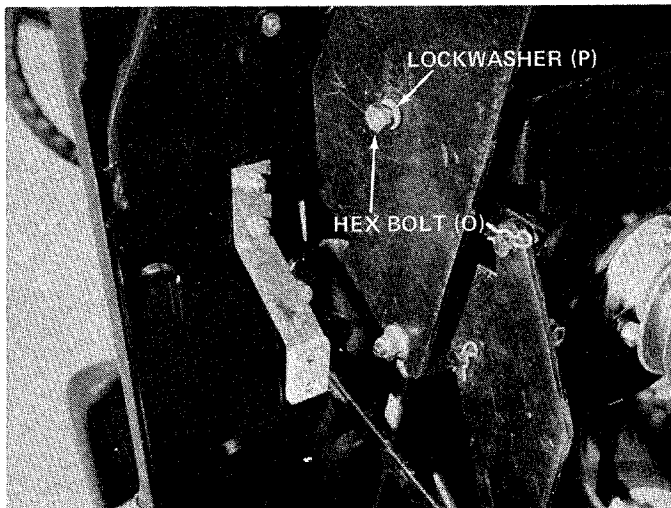

FIGURE 18
17. Start hex bolts (O) and lock washers (P) through center of channel support and idler assembly. See figure 18.